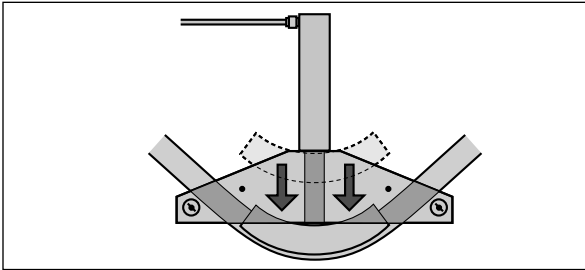

Figure 2
5.0 CINTRAGE (VOIR FIGURE 2 ET 3)